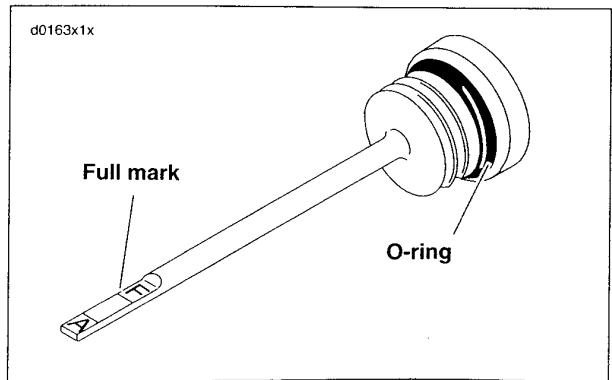

Figure 1-34. Filler Plug/Dipstick
- c. See Figure 1-34. Lubricant level should be at the F(ULL) mark on dipstick when removed.